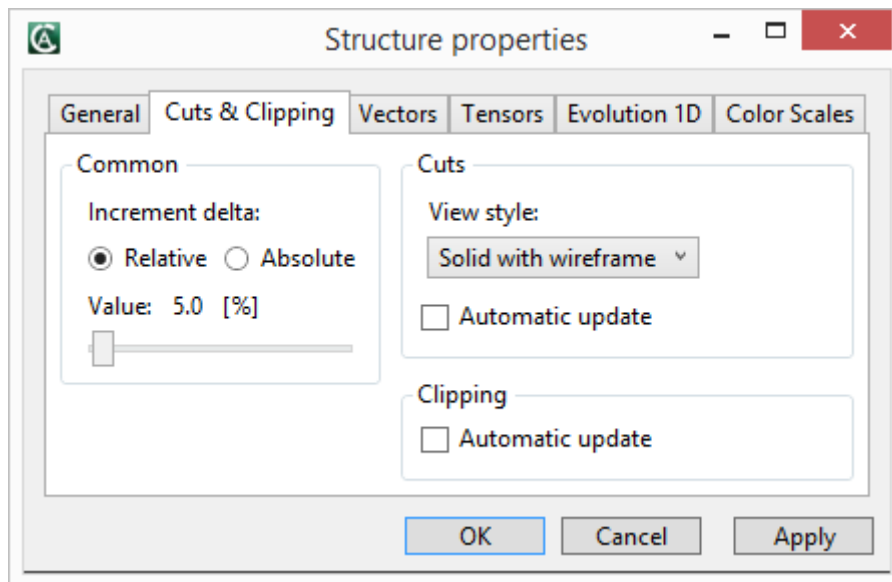

Fig. 3-26 Structure properties. Cuts & Clipping
- global settings of cuts and clipping planes (see Fig. 3-26)
The cut option enables the user to define an arbitrary number of cut planes that can be used to visualize the results inside the analyzed structure. The cut plane is defined by three points or by a point and a normal vector orthogonal to the requested plane. For both cases it is necessary to define a tangent vector, which defines a direction of an integrated shear force  $Vy'$ . Point coordinates can be inserted manually or grabbed from the structure windows by picking existing nodes. To that press the button **Select** and then select node in the structure window. After that point coordinates are automatically grabbed and can be adjusted manually if needed. For faster manipulation it can be checked the **Update automatically position** checkbox in Structure Properties (see Fig. 3-26), which allows to redraw the cut plane after any change of coordinates.